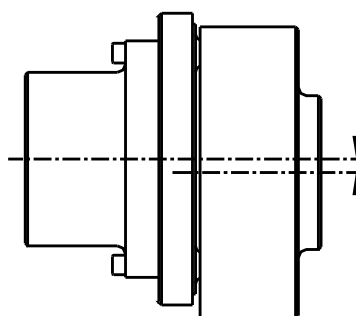

Figure 6: Radial Misalignment
- b) Not radially offset from each other (see Figure 6: Radial Misalignment).